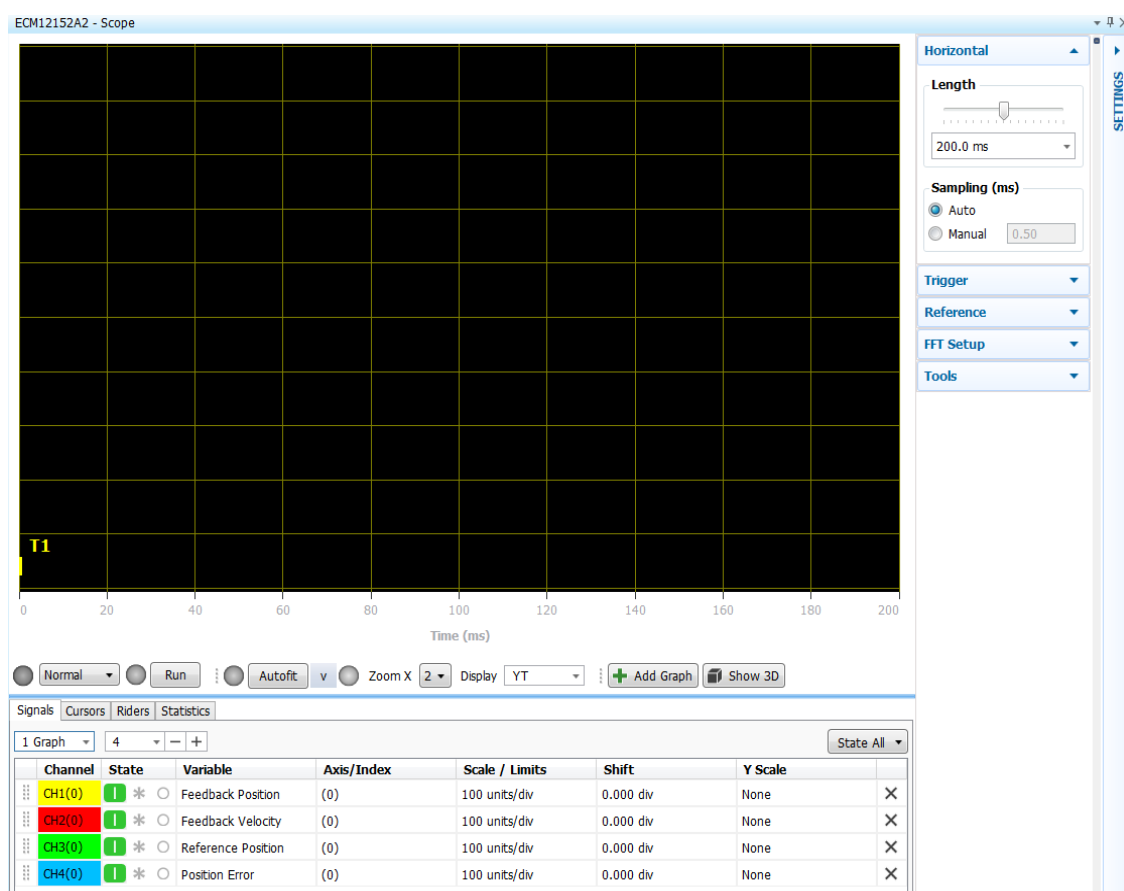

Figure 8-1. Scope
1. To open the **Scope**, right click on the **Controller**, then navigate to **Add Component > Diagnostics and Monitoring > Scope**. This opens the **Scope** screen (see Figure 8-1).
2. The **Settings** toolbar (see Figure 8-1) is collapsible. Expanding the **Settings** toolbar gives you access to parameters that expand the measurement capabilities of the **Scope**.